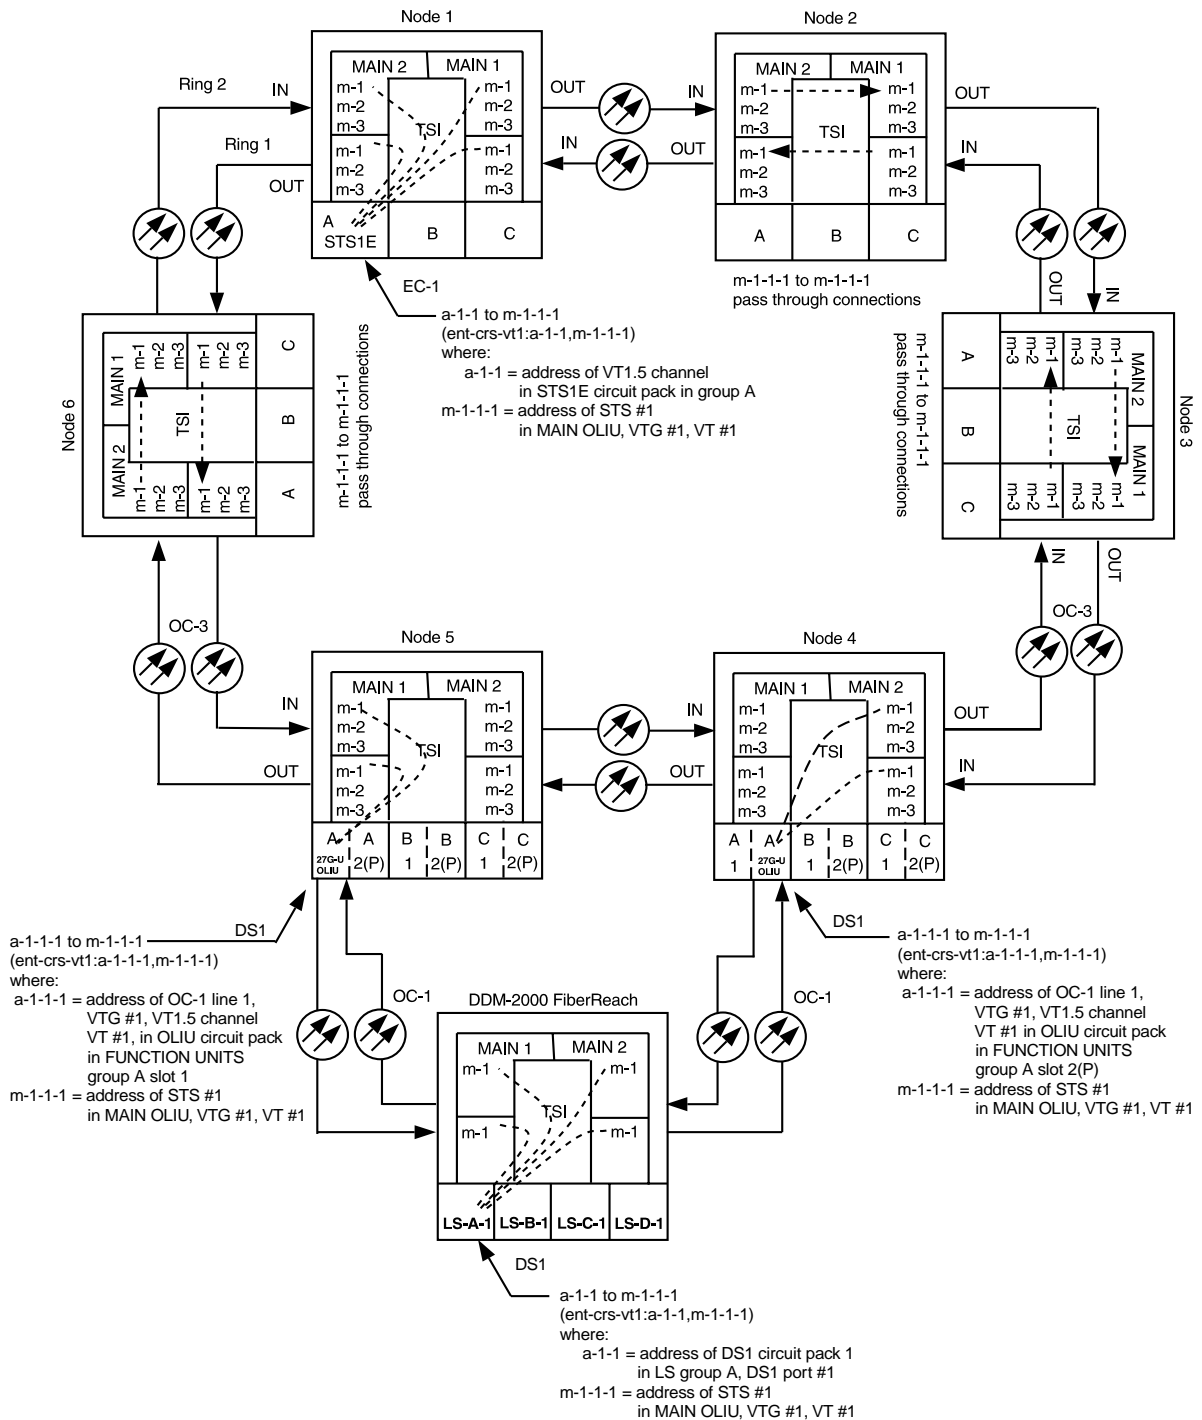

Figure 5 – Example of Dual Homing OC-3/OC-1 Cross-connections
2. Verify system configuration is same as specified on work order or circuit order. For example, see Figures 5 through 18.
Cross-connections consist of drop and pass-through connections. For example in Figures 5 and 6, drop connections are made at Nodes 1, 4, 5, and the FiberReach node. Pass-through cross-connections are made at Nodes 2, 3, and 6. Also, cross-connections must be made in all interconnected rings, including other DDM-2000 OC-3 rings, DDM-2000 OC-12 rings, and FT-2000 OC-48 rings, as required.
In dual homing configurations (Figures 5 through 8 and 16), **OLI** circuit packs must be installed in the correct slots in the host OC-3 or OC-12 nodes to support the direction of traffic required. For example in Figures 5 and 6, for traffic to be routed between Node 1 and the FiberReach system, the **27G-U/27G2-U OLI** or **26G2-U OLI** must be installed in **FUNCTION UNITS** group **A**, **B**, or **C**, slot **1** of Node 5 and **FUNCTION UNITS** group **A**, **B**, or **C**, slot **2(P)** of Node 4. This is required because traffic entering Node 5, **FUNCTION UNITS** slot **A-1** from the FiberReach shelf is automatically connected to the **MAIN-1 OLI** when cross-connections are made. Traffic entering **FUNCTION UNITS** slot **A-2(P)** is automatically connected to the **MAIN-2 OLI**.
11. At both terminating (drop) nodes of the circuit being established, use the `ent-crs-vt1:` command to make the terminating cross-connections (for example, Node 1 and FiberReach node in Figure 5, `ent-crs-vt1:m-1-1-1,a-1-1:cct=twoway`)
12. At the host OC-3 or OC-12 ring node sites, make proper cross-connections. For example in Figures 5 and 6, at Node 5, if VT1.5 channel #1, VTG #1, STS #1 from the **MAIN 1 OLIU** is to be cross-connected to **FUNCTION UNITS** group A, OC-1 line #1, then the command `ent-crs-vt1:m-1-1-1,a-1-1-1:cct=twoway` would be used to make the cross-connection.